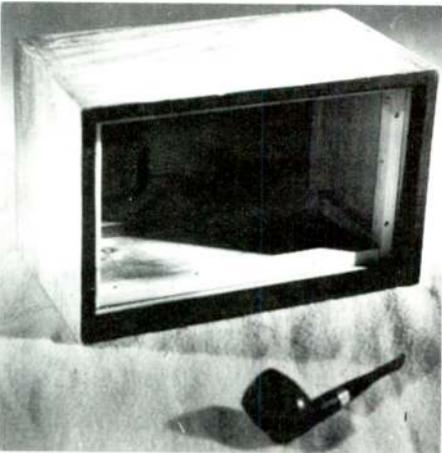

Fig. 4. Enclosure ready for veneering.
10. Trim the edges flush with the panels with a plane or rasp and sandpaper. Fill any large gaps that might cause an air leak with wood fillers. If you plan to veneer the enclosure, it is not really necessary to fill the screw holes and small gaps along the edges as shown in Fig. 4; however, sand the enclosures to remove any burrs and provide a smooth surface for the veneer.